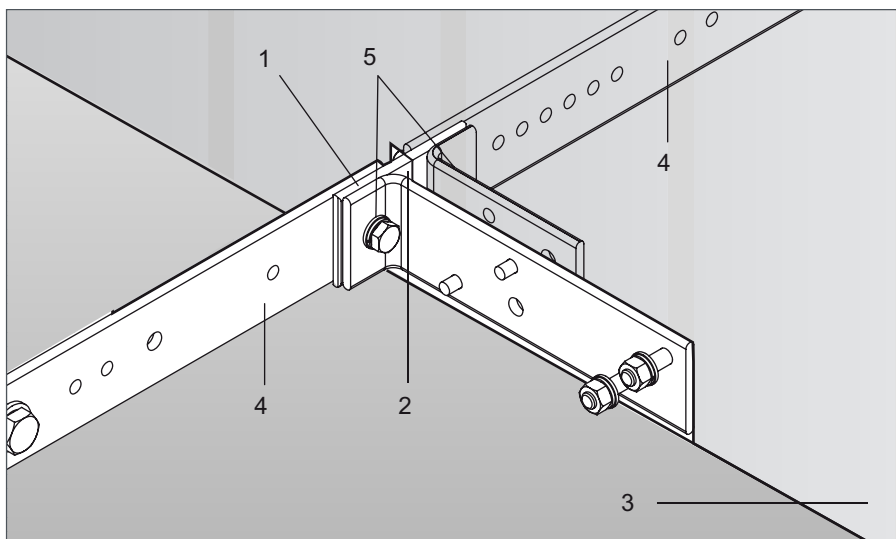

Figure 57
2. Slip the connecting bar (Figure 57,1) into the adjacent panel (3) through the cutout in the panel-supporting structure (2).
3. Screw-fasten (5) connecting bar on both sides to the earth bar (4) in question.